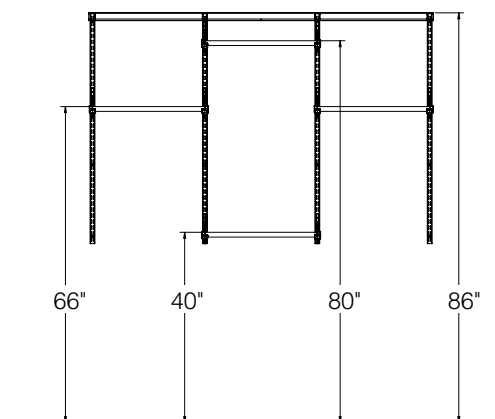

Figure 1
STEP 1: Measure 86" from the floor and make two marks on the wall with a pencil (**Figure 1**).
STEP 3: Install the hang rail into wall studs (the top of the hang rail at 86") using the provided screws and a level (**Figure 1**).
- Common closet pole heights (measuring from the floor to the top of the closet pole): 66" for a single pole configuration; 40" and 80" for a double pole configuration (**Figure 1**).